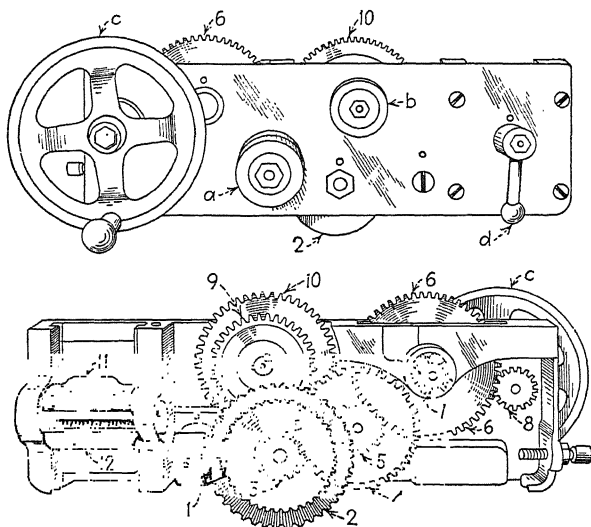
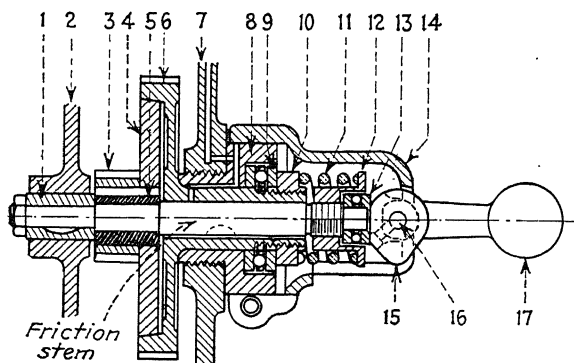

FIG. 31.—Older type of lathe apron.
FIG. 36.—Drop lever long feed control. (*The American Tool Works Company.*)
**43. The Apron.**—The action of the gears in the apron is shown in Fig. 31, and Figs. 33 and 34 show front and back views of the more rigidly constructed apron. Figure 36 shows the quick acting, lever-operated friction clutch which is replacing the older knob-turning type.
There are many designs of aprons, some with single-bevel-pinion drive (Fig. 31), some with two bevel pinions, one for reversing the direction of the feeds (Fig. 33). Other designs have a worm-and-worm-wheel drive. The point is, that while they differ in design, all serve the same three purposes—to transmit, by means of gears, the motion from a splined feed rod to either the *feed-rack pinion* which meshes with the feed rack to feed the whole carriage (long feed), or to the *cross-feed pinion* which is keyed to the *cross-feed* screw; and also, by closing the split nut on the lead screw, to transmit positive motion to the apron for the purpose of cutting threads.
**44. The Apron Mechanism.**—The way in which motion is transmitted from the revolving feed rod through the apron gears, to cause either the longitudinal (long) feed or the cross feed to operate, is shown in Fig. 31. This cut shows an older type of apron; the later stronger designs (see Fig. 33) have “double-wall construction” or “box section” to provide outer bearing supports for all studs (a gear with a bearing on each side is more rigid and has smoother action than if it is supported by only one bearing). However, the principle of the mechanism is the same for both, and Fig. 31 being open is easier to see and understand.
1 *Friction Clutch.*—The cone friction is used. The tapered cone of one member fits the corresponding taper cup in the other member and drives by friction. See parts 4 and 5, Fig. 36, page 60.
The two halves of the split nut (11) and (12), Fig. 32 and also Fig. 31, are operated by the handle *d* through the cam slots (13) and (14) in the disk. The pins (15) and (16) which lie in the slots are caused to move toward each other when the handle is moved in the direction of the arrow and away from each other as the handle is moved back.
The clutch control for the longitudinal feed shown in Fig. 36 is used in the lathe illustrated in Fig. 13. The clutch members are held in engagement by a heavy coil spring and disengaged positively and instantly by means of a cam